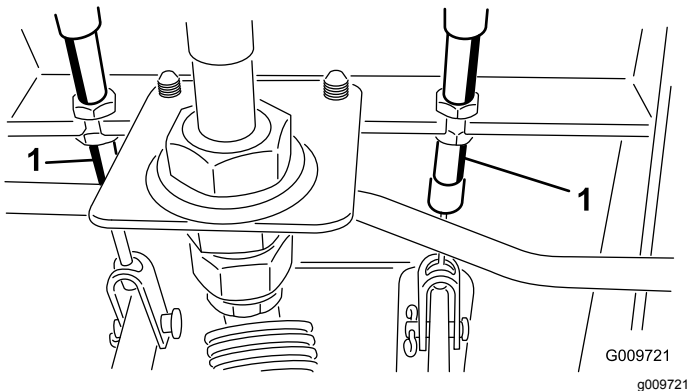

Figure 58
- A. Loosen the front nut on the threaded end of the brake cable (Figure 58).